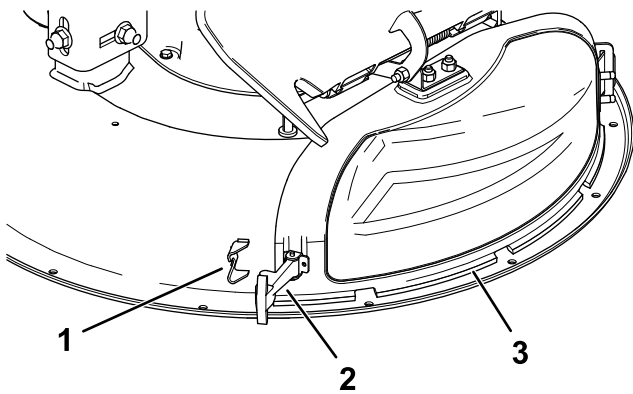

Figure 6
5. Secure the discharge cover to the deck by hooking the flexible latch on the discharge cover into the retainer on the deck (Figure 6).
3. Release the flexible latch from the latch retainer on the discharge cover and pivot the discharge cover to the right (**Figure 6**).